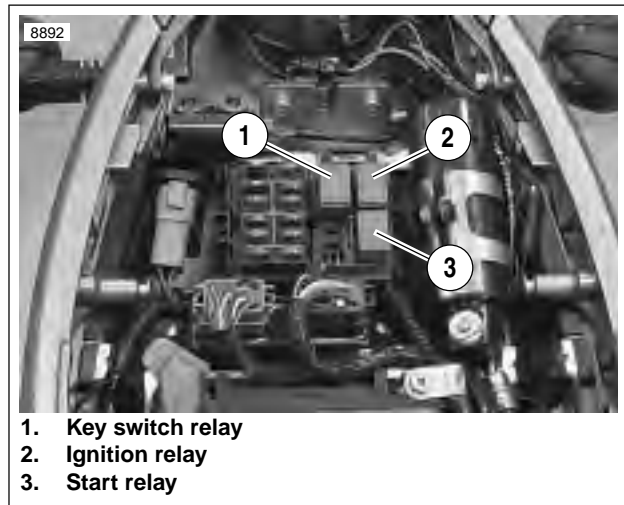

Figure 7-16. Relay Block
1. See Figure 7-16. Locate ignition relay (2) within relay block.
See Figure 7-16. The key switch relay (1) is under the seat. See Ignition Relay under 7.5 STARTER INTERLOCK for testing procedure.